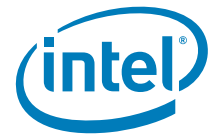

Figure 1. Mechanical Specifications for x16D (105-ball) package (8x10x1.0 mm)
- Figure 1, "Mechanical Specifications for x16D (105-ball) package (8x10x1.0 mm)"